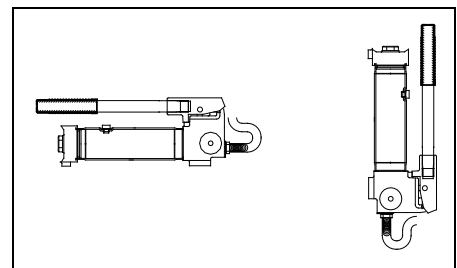

Figure 5 - Horizontal and Vertical Position
3. Pump may be used in horizontal and vertical position as illustrated on Figure 5.